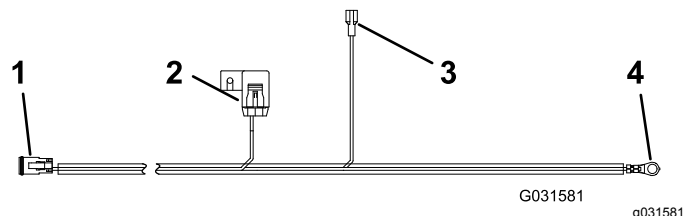

Figure 10
1. To power the kit from the tractor fuse block, use the fuse-block harness Figure 10. Attach the fuse-block connector to the tractor fuse block and install a 15 A fuse.